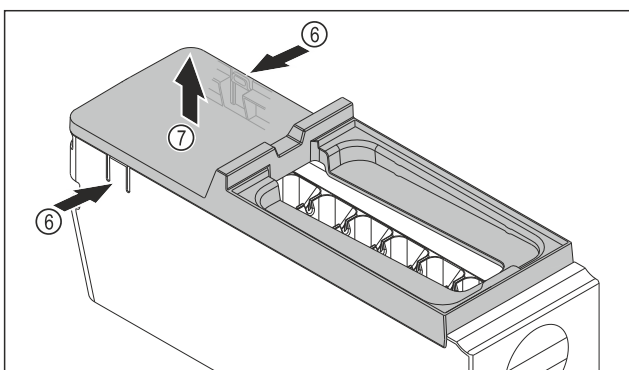

Fig. 69
- ▶ Removing the EasyTwist-Ice body cover: Push the tabs Fig. 69 (6) on both sides of the EasyTwist-Ice body with one hand.
- ▶ Use the other hand to remove the cover Fig. 69 (7) upwards.